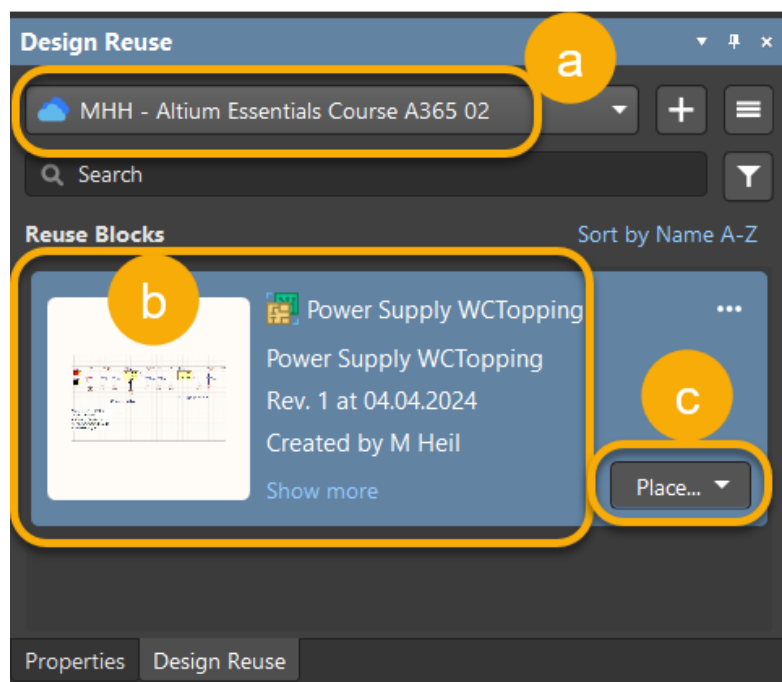

Figure 18. Design Reuse panel
38. At the *Design Reuse* panel, Figure 18: